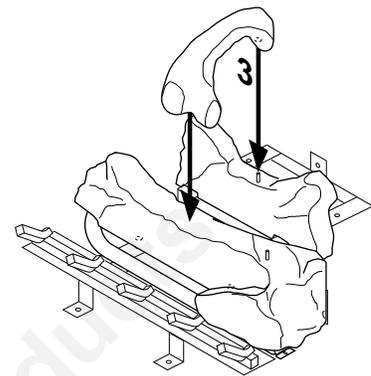

Figure 52 - Installing Log No. 3
3. Place log #3 ("C"-shaped crossover log) onto the rear and front logs. Make sure it is seated properly on the smooth surface on the front log and on the pin on the back log as shown in Figure 52.